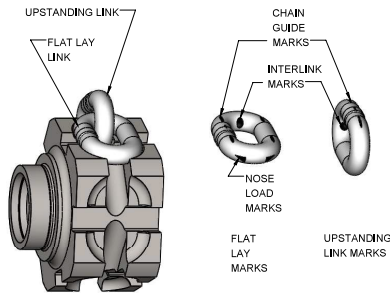

Figure 17. Chain Wear Areas
3. Slack the portion of the chain that normally passes over the lift-wheel (sprocket) or idler sprocket on multi-reeved hoist. Examine the chain links for wear (see figure 17). If the wire diameter anywhere on the link measures less than 90% of the nominal wire diameter, the chain must be replaced.